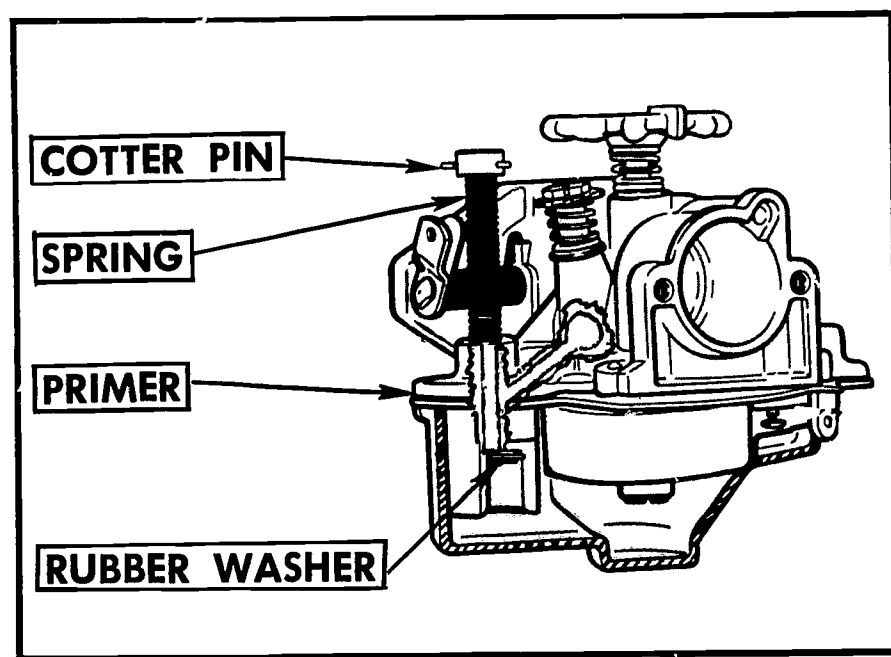

FIGURE 148. A one-piece float-type carburetor with primer pump.
9. *Remove primer pump if installed (Figure 148).*